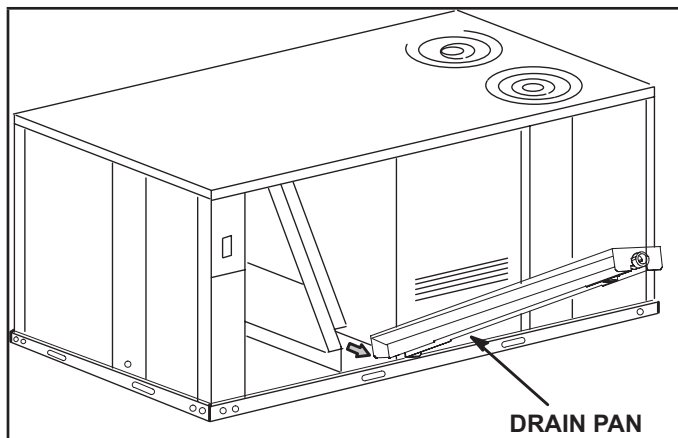

FIGURE 6
- 4 - Lift front edge of the drain pan (to clear bottom drain plug) and slide drain pan out of unit. See FIGURE 6.